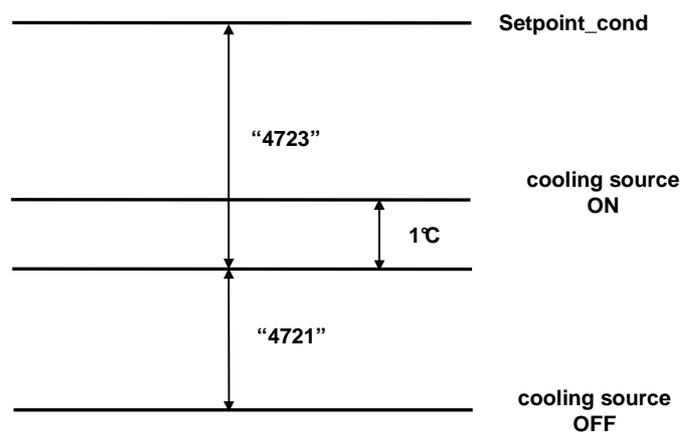

Figure 57 Use of sensors B4 and B41 to turn the cooling source ON/OFF
Parameters “4723: Temp diff buffer/HC” (default 0°C , range -20°C to +20°C) and “4721: Auto generation lock” (default 0°C, range 0°C to +2 0°C), define in combination the means of activation/deactivation of cold source water pumping as a function of the temperatures measured by sensors B4 and B41 located in the buffer. When $B4 \text{ and } B41 < \text{Setpoint_cond} + “4723” - “4721”$ (see Figure 57 a pagina 63), in other words, when both temperature values drop below the cooling setpoint plus the value of parameter “4723” minus the value of parameter “4721”, pumping is deactivated; it is reactivated when $B4 \text{ and } B41 > \text{Setpoint_cond} + “4723” + 1°C$, in other words, when both temperature values rise above the cooling setpoint plus the value of parameter “4723” plus 1°C (see Figure 57 a pagina 63).
- the difference (sum of the parameters $4732 < 0$) between the values of parameters “4723” and “4721” defines the pumping deactivation point (see Figure 57 a pagina 63) and:
- The value of parameter “4721” + 1°C defines the differential between switching on and off (see Figure 57 a pagina 63) and: